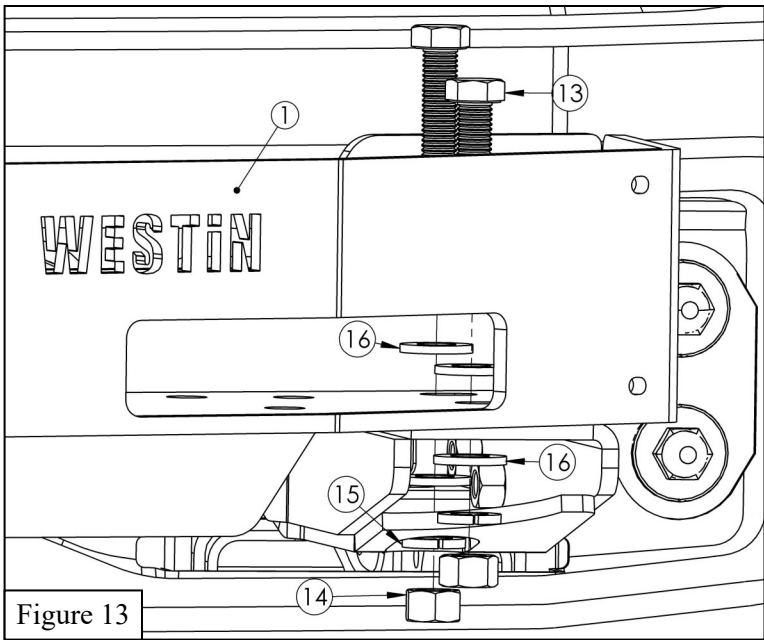

Figure 13
13. Locate (1) Winch Tray (Item 1) and loosely secure it onto the Lower Mounting Brackets using the supplied M12 hardware (Items 13-16). See **Figure 13** for reference.